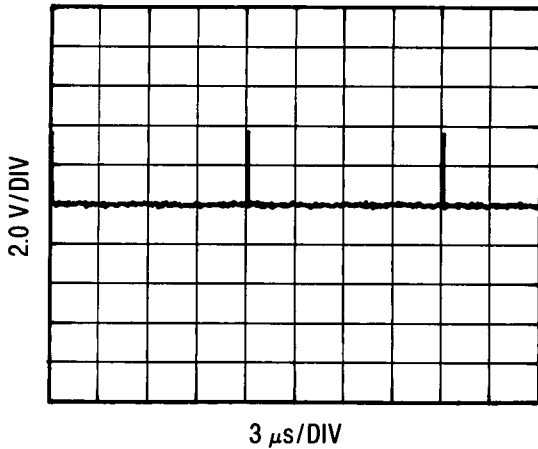

Figure 8-29. A2A5TP3, A2A3 Test Switch HIGH
4. Press RCL 0 and connect the oscilloscope to A2A5TP3. The waveform should be as shown in Figure 8-29.